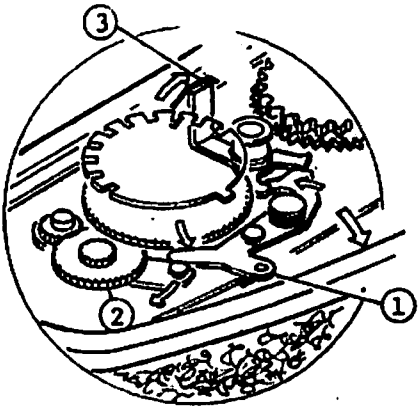

Fig. 121
* Release plate ①, Third gear ② and Release lever ③ come off from Film counter gear by opening Back cover. Consequently, Exposure counter automatically resets to S (Start) as shown in Fig. 121.